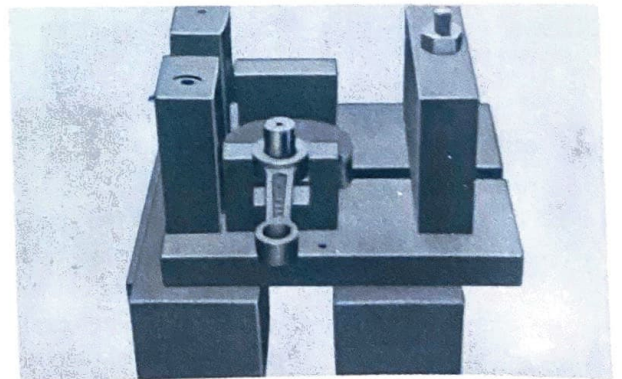

Fig. 4-17-13
- (2) Press the crank pin into one crank wheel, and position the crank wheel in Tool No.1 Then install the connecting rod on the shaft. (Fig. 4-17-13)